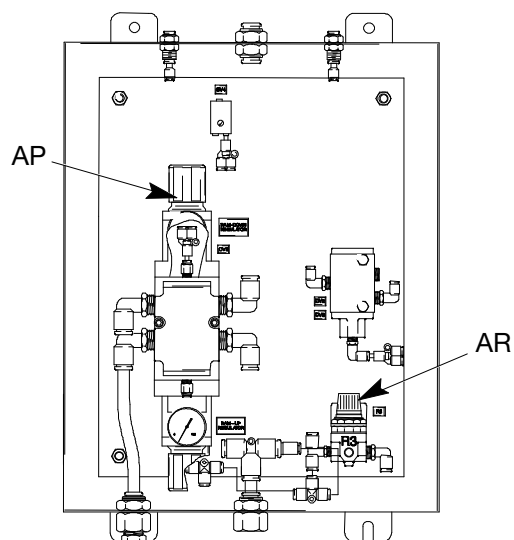

FIG. 12
2. Fully lower the ram by setting the RAM POSITION Switch (AJ) to LOWER. Leave the switch in the LOWER position.
3. Open the door on the Pneumatic Logic Panel (G).
4. Adjust the air pressure to 0 PSI for the RAM DOWN Air Regulator (AP). Refer to the gauge on the RAM DOWN Air Regulator (AP) and R3 Regulator (AR) to verify the ram has been depressurized. See FIG. 12.
5. Slowly open the drain cock located on the bottom of the air cylinders (CL).
6. After the air pressure has been relieved, remove the Ram Down air line running from the top of the Pneumatic Logic Panel (G) to the ram cross bar (CB).
The air filter is located between the air supply source and the Pneumatic Logic Panel (G). See FIG. 12.